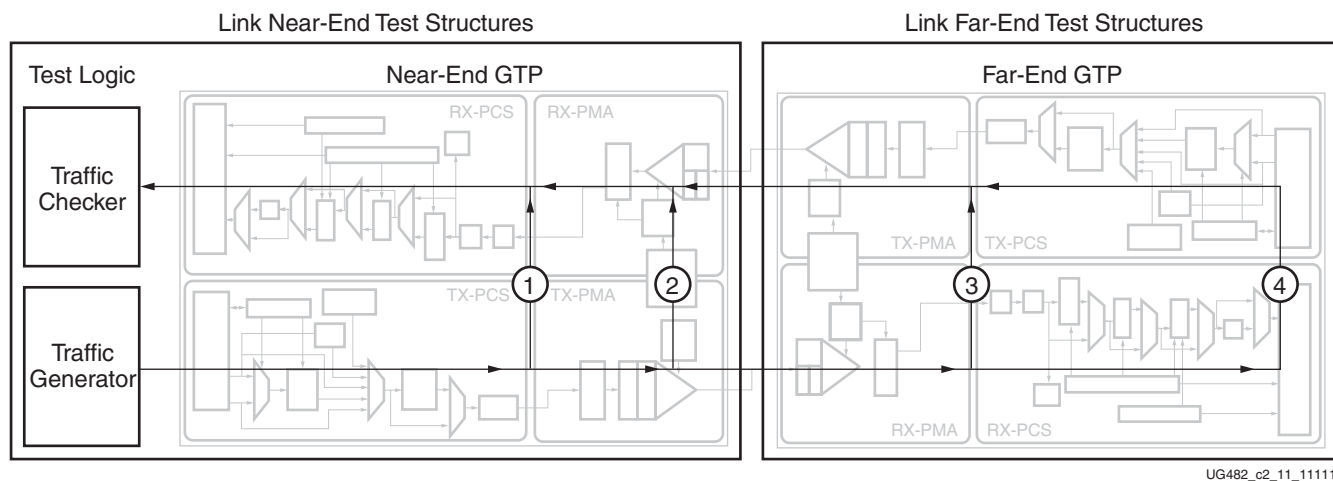

Figure 2-22: Loopback Testing Overview
Loopback modes are specialized configurations of the transceiver datapath where the traffic stream is folded back to the source. Typically, a specific traffic pattern is transmitted and then compared to check for errors. Figure 2-22 illustrates a loopback test configuration with four different loopback modes.
- Near-end PCS Loopback (path 1 in Figure 2-22)
- Near-end PMA Loopback (path 2 in Figure 2-22)
- Far-end PMA Loopback (path 3 in Figure 2-22)
- Far-end PCS Loopback (path 4 in Figure 2-22)